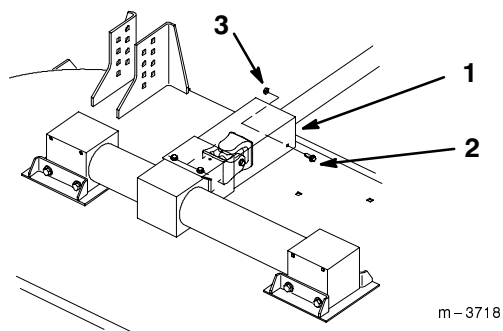

Figure 9
11. Secure PTO cover down with 5/16-18 x 7/8" (11 mm) shoulder bolt and 5/16" flange nut (Fig. 9).
1. Remove 5/16-18 x 7/8" (11 mm) shoulder bolt and 5/16" flange nut holding PTO cover down (Fig. 9).